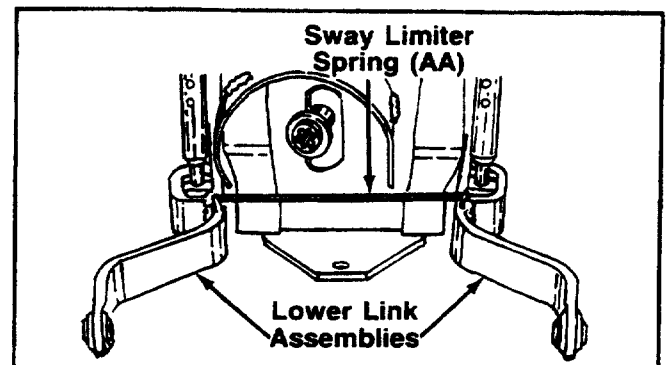

FIGURE 38.
50. Assemble the sway limiter spring (AA) to each lower link. See figure 38.